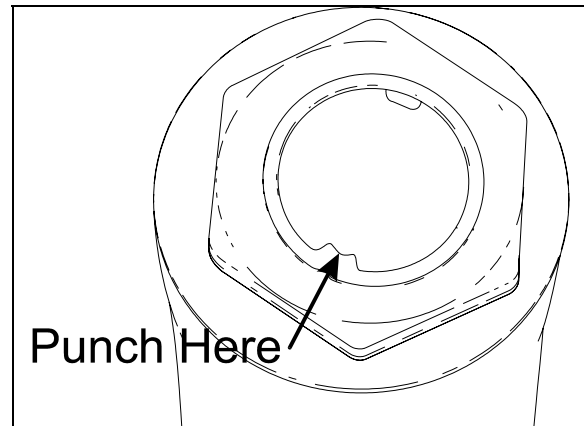

FIGURE 16: FIXING NUT PUNCH MARK
3. Lock nut with sector shaft using a punch mark into the groove (Refer to figure 16).